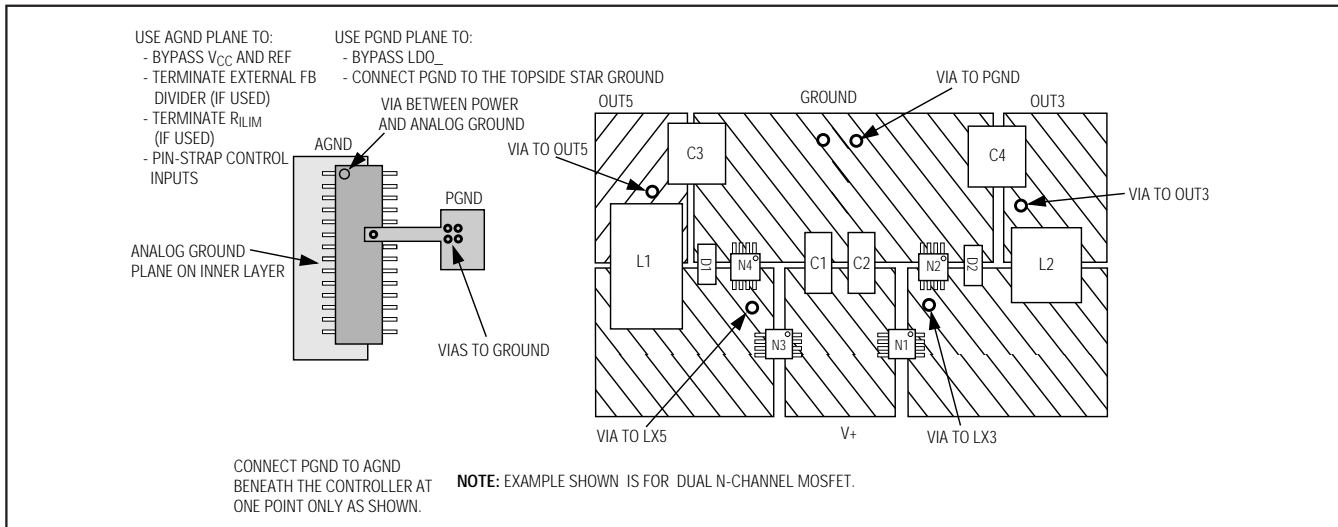

Figure 13. PC Board Layout Example
Careful PC board layout is critical to achieve minimal switching losses and clean, stable operation. This is especially true when multiple converters are on the same PC board where one circuit can affect the other. The switching power stages require particular attention (Figure 13). Refer to the MAX1999 EV kit data sheet for a specific layout example.
- 4) Make the DC-DC controller ground connections as follows: near the device, create a small analog ground plane. Connect the small analog ground plane to GND (Figure 13) and use the plane for the ground connection for the REF and V_{CC} bypass capacitors, FB dividers, and ILIM resistors (if any). Create another small ground island for PGND, and use the plane for the V₊ bypass capacitor, placed very close to the device. Connect the AGND and PGND planes together at the GND pin of the device.